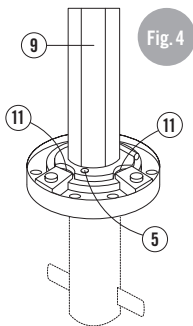
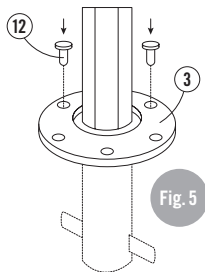

Fig. 4
Fig. 5
- Unscrew lid from ground socket (1).
- Remove the fixing stay (2) from pole base and push jacking-ring (3) up over crank opening (4). Pad against pole and secure with inserted crank.
- Loosen safety screw (5), fold out hinge plate (6) and place on ground socket.
- Tighten hinge disc to ground socket using twisting mounts (7). Use central threaded holes.
- In the case of sunshades with electrical installation, connect plug (8). Stow loose cable in the ground socket.
- Straighten up pole (9) carefully and still hold firmly (fig. 4).
- Insert safety screw (5).
- Adjust upright position with plate screws (11), if necessary.
- Lower jacking ring (3) onto pole base and insert and tighten anchoring screws (12) (fig. 5).